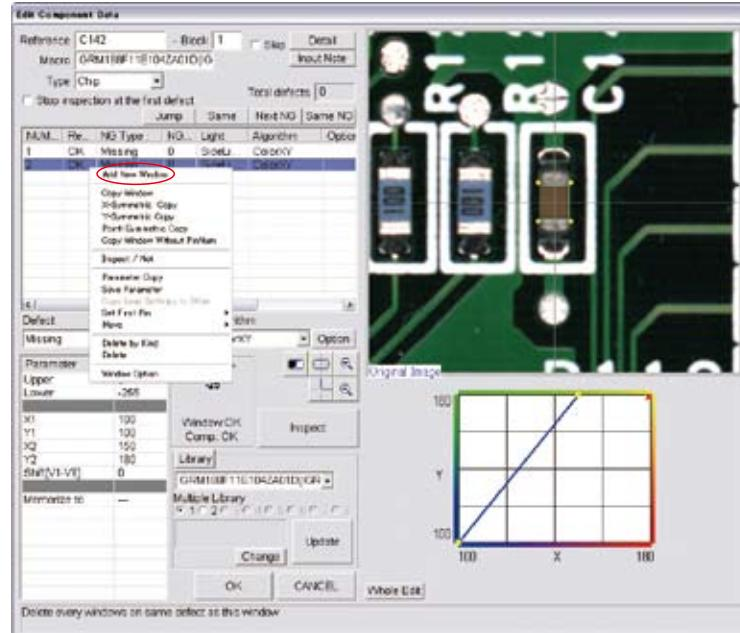

Figure 1-45 Auto Deployment of Chip Component 1
Step1: Right-click the center of CAD data and the window shown in Figure 1-45 appears.